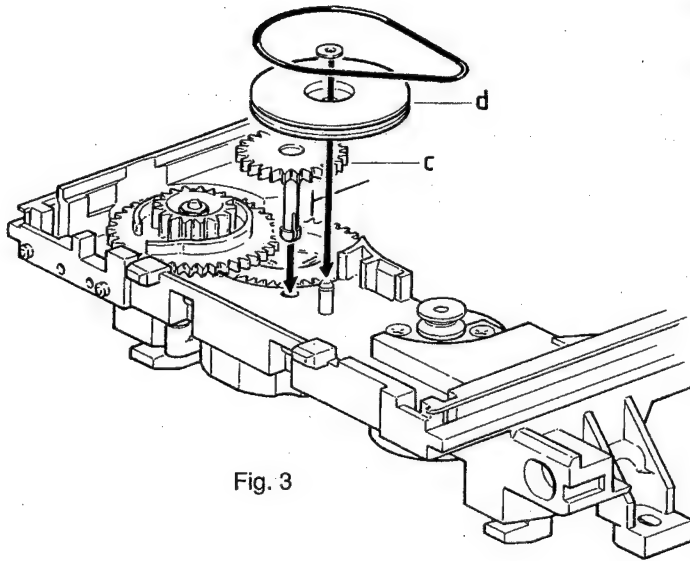

Fig. 3
- c) Mount idle wheel 2 (c) and idle wheel 1 (d) in any position. See Fig. 3.